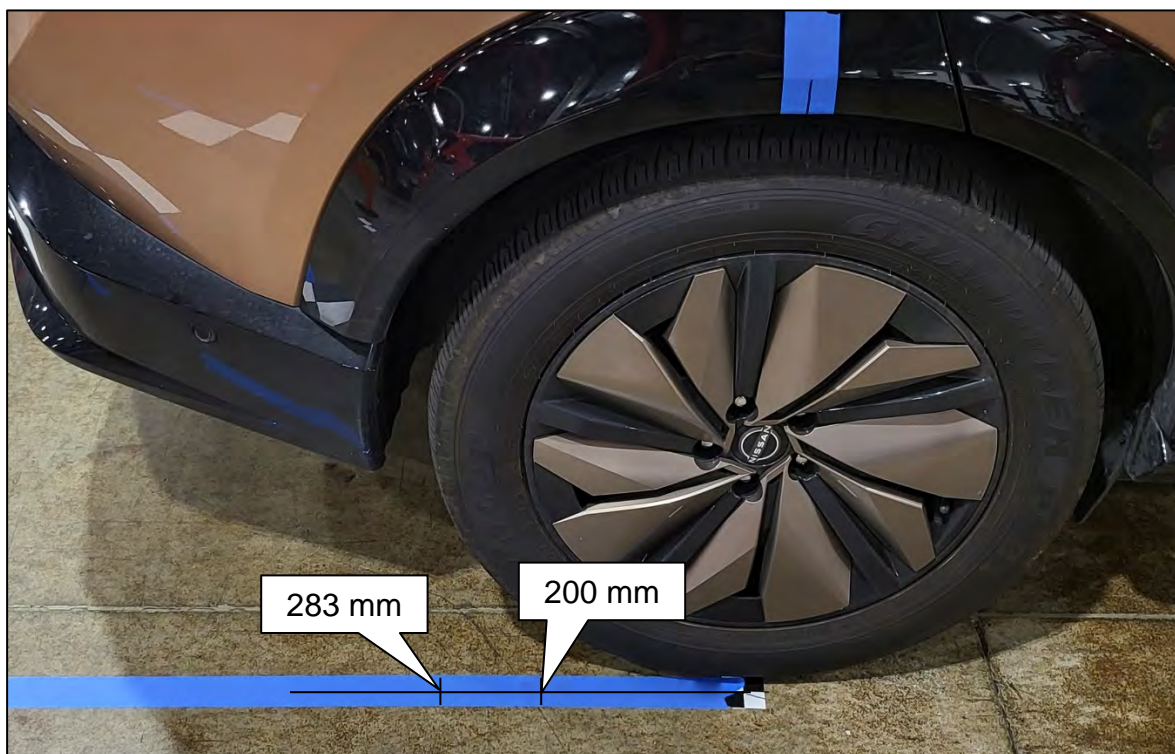

Figure 102
65. Measure 200 mm and 283 mm from the center point of the passenger (RH) side rear wheel, and then make a mark at each measurement, as shown in Figure 102.